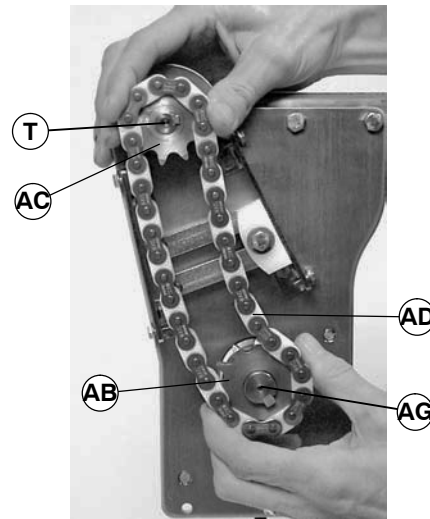

Figure 13
6. Install timing chain (AD of Figure 13) over sprockets (AB and AC). Install timing chain and sprockets on conveyor input shaft (T) and gearmotor output shaft (AG). Do not tighten sprocket set screws.